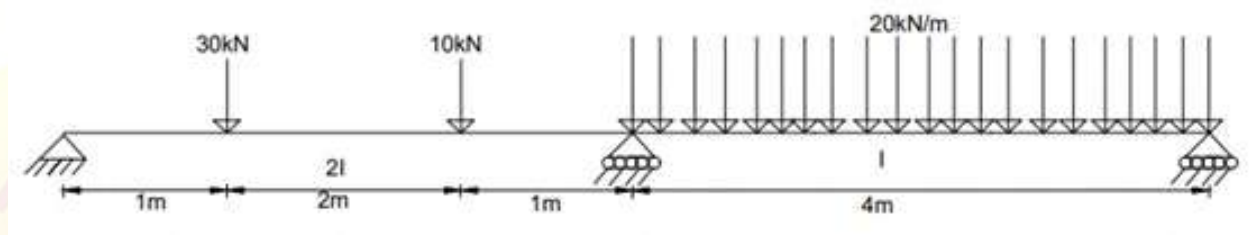

Figure 1:
1. a) Structures may be solved by either stiffness matrix method or flexibility method. Generally stiffness matrix is preferred. Explain. (3)
b) Analyse the continuous beam shown in Figure 1 using Direct stiffness method. (7)